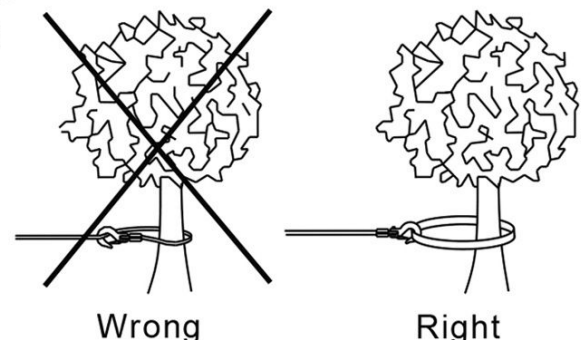

Figure 3
g. Never hook the wire rope back on itself as this can damage the rope. Use a nylon sling when using an anchor point such as a tree. SEE FIGURE 3.